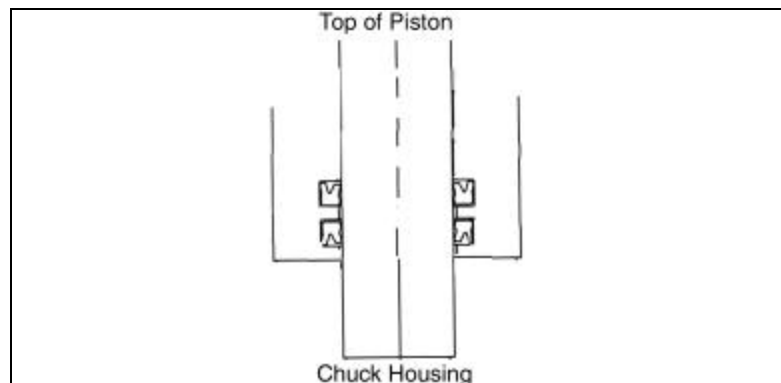

Figure 07-07: Remove Cylinder U-joint Seals
4. Remove the O-ring (Position 303) and the U-joint seals (Position 204) and carefully clean u-joint seal's internal grooves. (Figure 07-07)